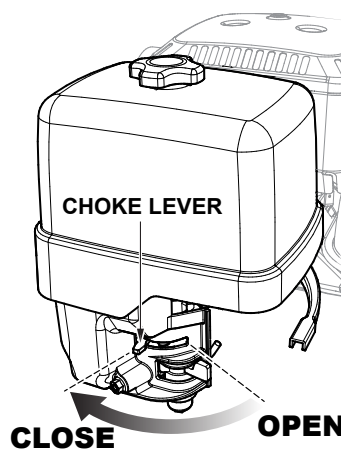

Figure 43. Choke Lever (Closed)
4. If starting a cold engine, place the choke lever in the **CLOSED** position (Figure 43).
7. If the engine has started, slowly return the choke lever to the **CLOSED** position (Figure 43). If the engine has not started, repeat steps 1 through 6.